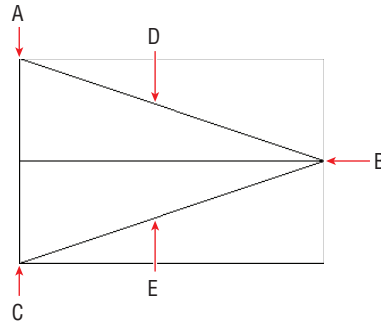
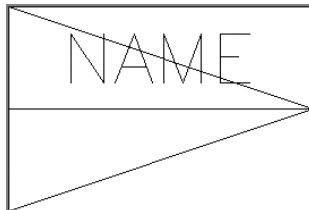
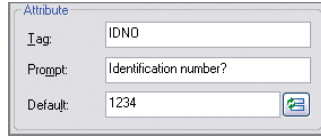

FIGURE 15.7 Drawing simple geometry to form the basis of an attributed block
FIGURE 15.9 Placing an attribute definition in relation to the block definition geometry
FIGURE 15.10 Creating another attribute definition
- Click the Line tool in the Draw panel, and click points A, B, and C in Figure 15.7. Press Enter to end the LINE command.
9. Click OK to close the Attribute Definition dialog box. Click the midpoint at point D in Figure 15.7. Figure 15.9 shows the result.
10. Press the spacebar to repeat the ATTDEF command. Type **IDNO** as the tag, **Identification number?** as the prompt, and **1234** as the default (see Figure 15.10). Set Justification to Middle Center and click OK. Click the midpoint of the lower diagonal line at point E in Figure 15.7.
13. Click the Pick Insertion Base Point icon, and then click point C in Figure 15.7.